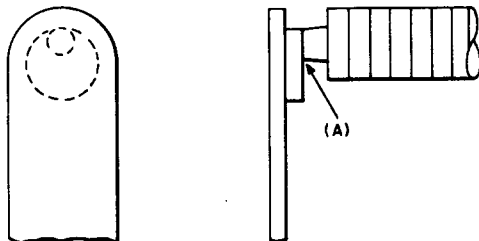

Fig. 2 — 85F-Type Relay — Contact Alignment
2.07 *Contact Alignment* — Fig. 2(A): Contacts shall line up so the point of contact falls wholly within the circumference of the opposing contact disc. Gauge by eye.